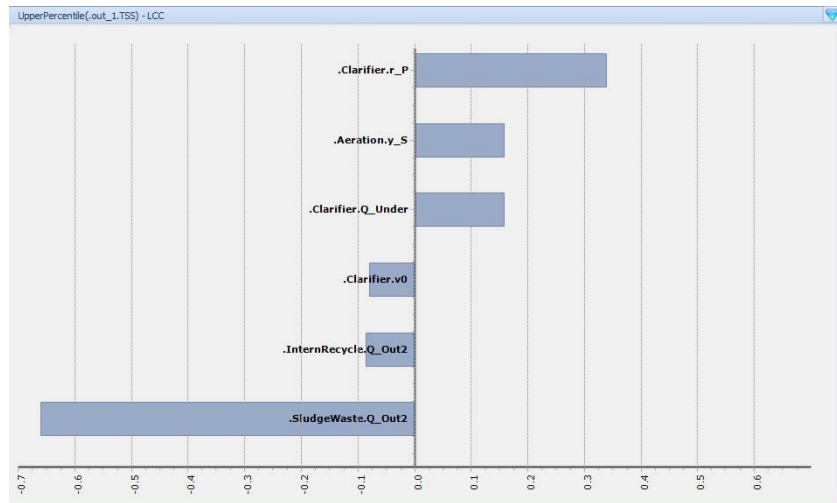

Figure 9.5 Linear Correlation Coefficient (LCC) for the Upper Percentile of the TSS concentration in the effluent
- the sludge properties (rP and v0) have the greatest impact on the concentration of solids in the effluent (Figure 9.5);